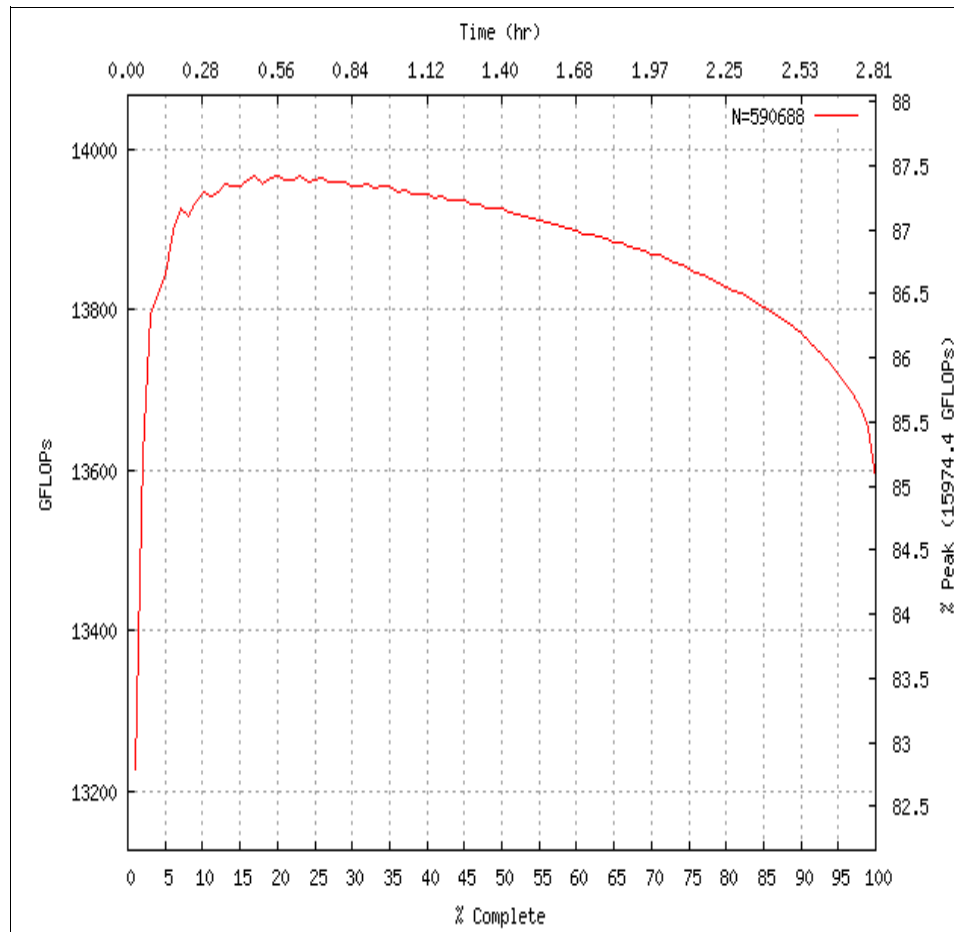

Figure 6-1 Example of HPLinpack output graph
- ▶ Output graph with the following axis, as shown in Figure 6-1 on page 107: